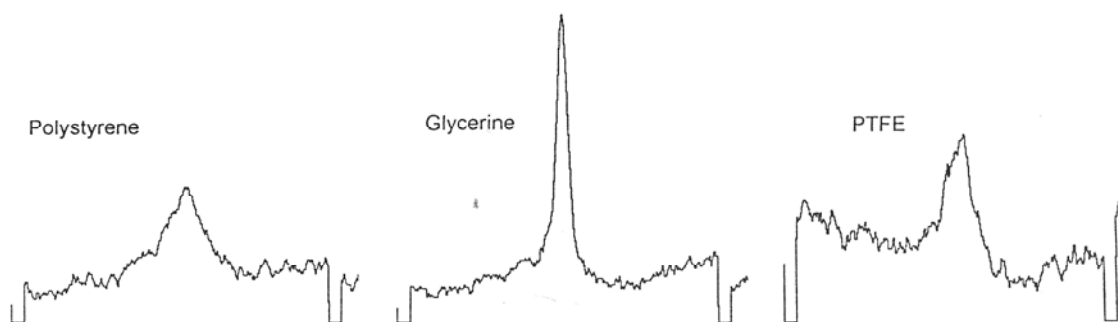

Figure 4: Expected resonance peaks for the three NMR samples.
6. Remove the glycerine sample. Withdraw the proton probe unit from the cell column and reinsert it upside down with the FREQ knob pointing upwards. Replace the glycerine sample vial and adjust the FREQ knob until a resonance peak is observed. The resonance frequency should be somewhere in the range 13 – 14 kHz (**Note:** the actual applied frequency is 1000 times this ~ 13 – 14 MHz). The peak should look similar to the peak in Figure 4.